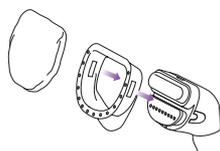

Fig. 7
- 2 To lower the handle, push the button on the side of the handle to a locked position. (fig. 7) Hang the garment on the garment hook.
- 4 Attach the Upholstery/Delicate Fabric bonnet to the frame, then attach the frame to the unit. Pull either side of the bonnet over the top of the frame and secure the bottom of the bonnet to the frame. (Fig. 7) Then, attach the frame to the fabric steamer by placing the top of the frame into the notch above the **Wrinkle Eraser™**. Next, secure the rounded end of the frame underneath the steam nozzle and snap into place.